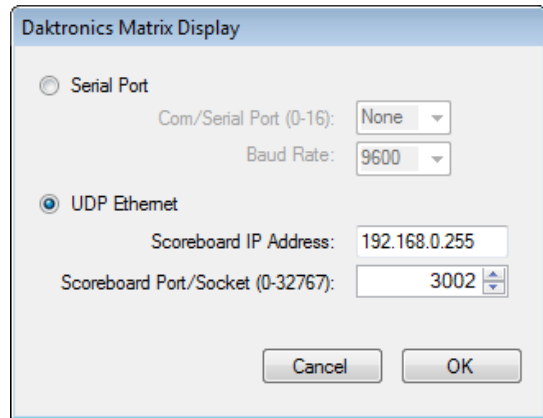

Figure 41: RaceClock & Matrix-Results Options
2. Click on **UDP Ethernet**, and set up the options as follows (**Figure 41**).
4. Click on **UDP Ethernet**, and set up the same options as **Step 2** and as shown in **Figure 41**. Click **OK** when finished to save the settings.